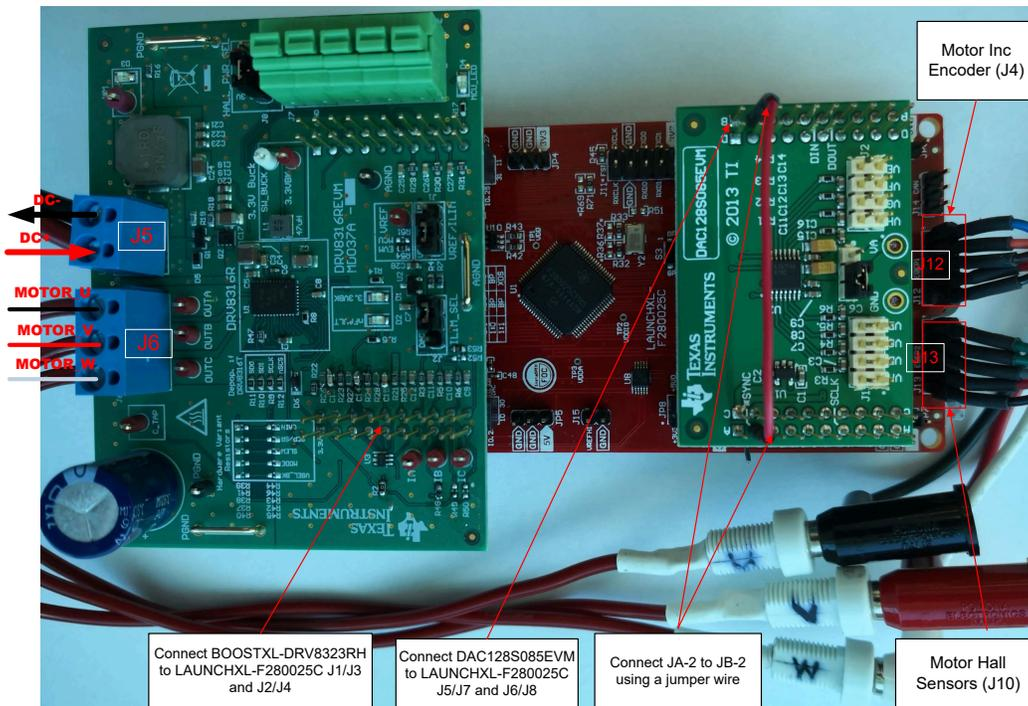

Figure 3-15. LAUNCHXL-F280025C Connected to the DRV8316 REVM and DAC128S085EVM
- Make sure that the following items are completed as described below, and then connect the **DRV8316REVM** to J1/J3 and J4/J2 site of **LAUNCHXL-F280025C**, **LAUNCHXL-F280039C**, or **LAUNCHXL-F2800137** as shown in **Figure 3-15**.
- Connect the motor, encoder, and Hall sensors to the **DRV8316REVM** and **LAUNCHXL-F280025C**, **LAUNCHXL-F280039C**, or **LAUNCHXL-F2800137** as described in **Table 3-2** and shown in **Figure 3-15**.
- Connect a supply voltage ranging from 4.5 to 24V from a battery or a DC voltage source to the voltage supply pins as shown in **Figure 3-15**. The ABS max supply voltage rating for the **DRV8316REVM** is 40V, so care must be taken to ensure that the voltage does not exceed this value during operation. This is particularly important while slowing down or braking the motor, which can cause the supply voltage to rise substantially. Power should only be applied when instructed to do so in **Section 3.5**, keep disconnected otherwise.